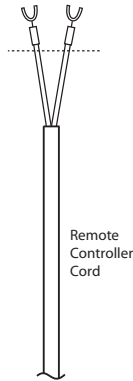

Figure 2: Remote Controller Cord
- 3) Cut the end of the Remote Controller cord to remove the U-shaped connectors as shown in Figure 2. Do not strip the blue insulation from the wiring.